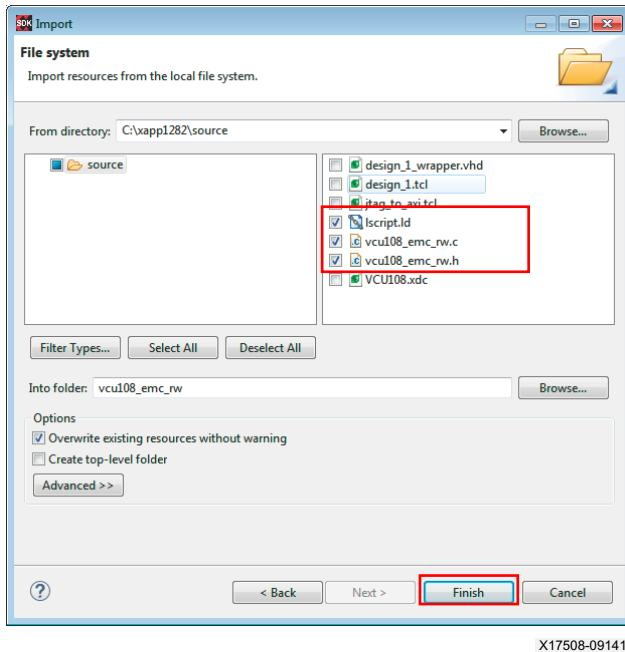

Figure 12: Import Files from the Local File System
- I. Browse to the C:\xapp1282\source directory, click **OK**, and select the highlighted files shown in Figure 12.